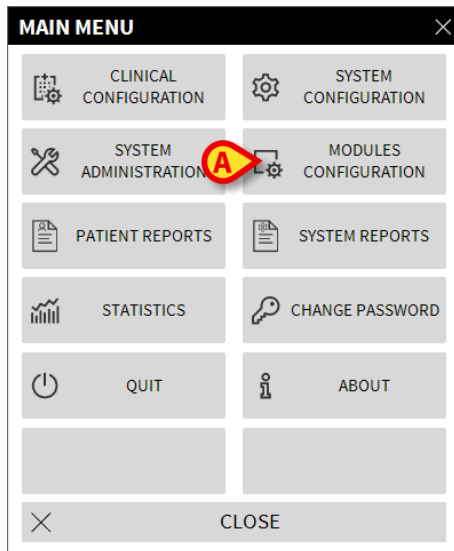

Fig 89
The following menu is displayed (Fig 89).
- Click on **Modules Configuration** (Fig 89 **A**)